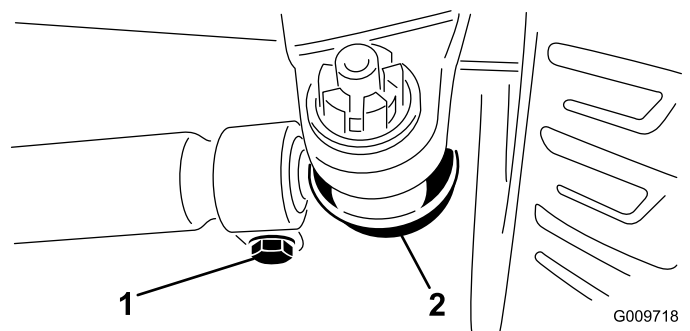

Figure 55
2. To adjust, remove the cotter pin and nut from either tie-rod ball joint (Figure 55).
4. Loosen the clamps at both ends of the tie rods (Figure 55).